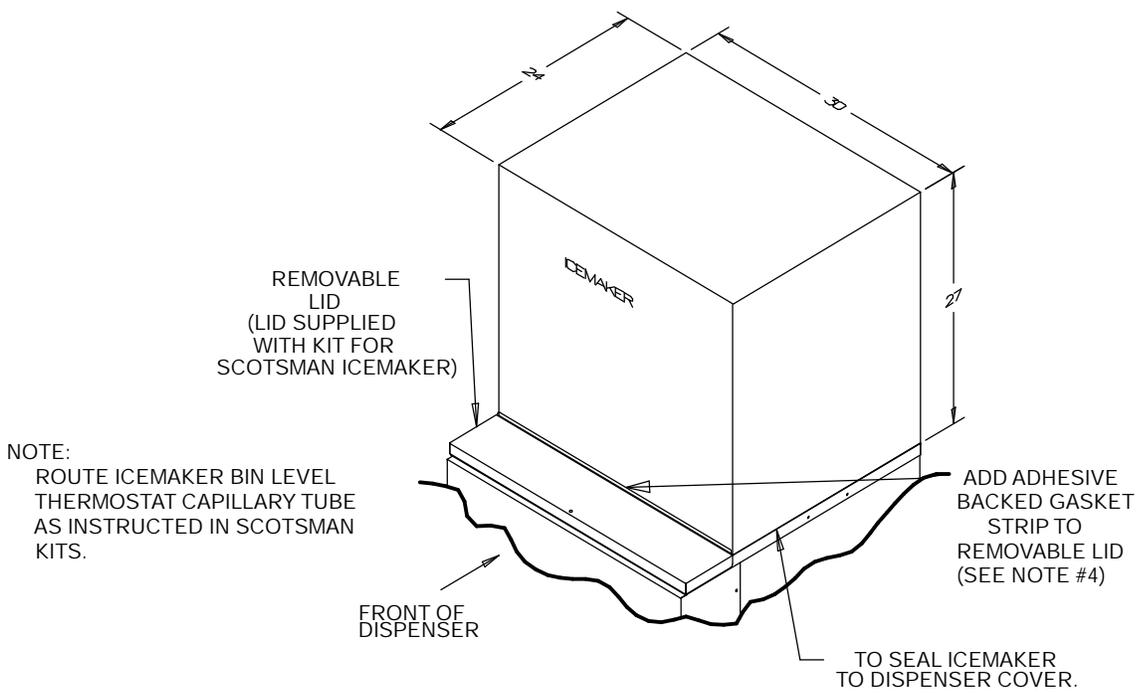

Figure 3
- B. Apply a bead of RTV sealant around the perimeter of the joint between the ice maker and the dispenser. See Figure 3.